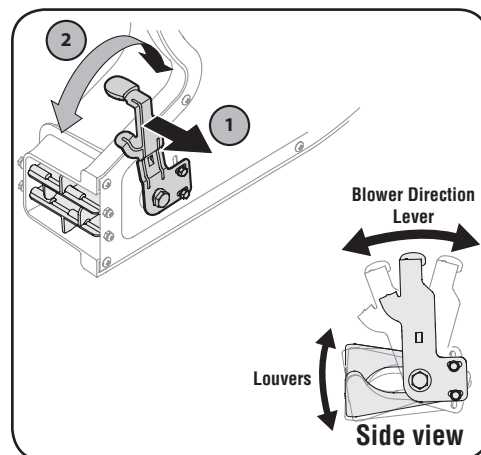

Figure 4-3
1. Pull the lever out and away from the blower. See Figure 4-3.
2. Move the lever to the left to direct airflow downward or to the right to direct airflow upward. See side view in Figure 4-3.